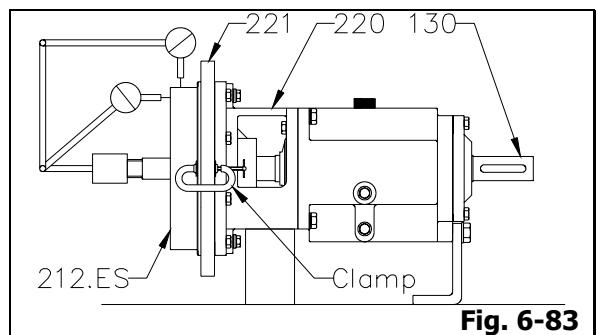

Fig. 6-83
- Check stuffing box cover (212.ES) run out. Clamp stuffing box cover (212.ES) tight to frame adaptor (220) or adaptor extension ring (221). Rotate shaft (130) through 360°. If total indicator reading is greater than 0.13mm, determine cause and correct before proceeding (Fig. 6-83).